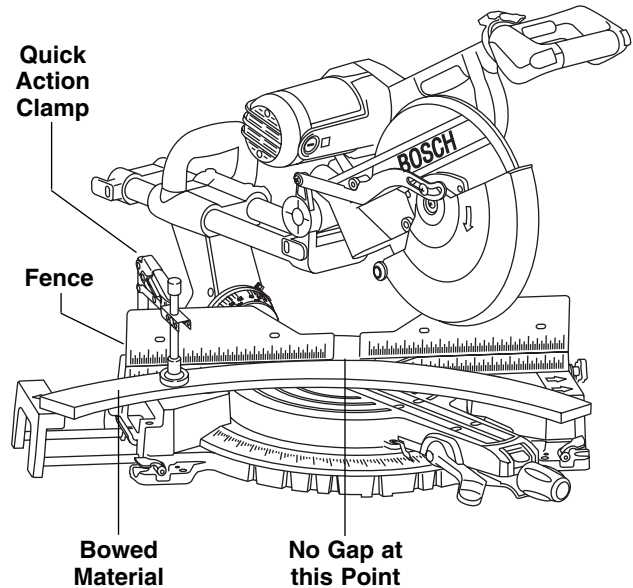

Figure 37. Bowed Material
**⚠ WARNING** If workpiece is bowed or warped, clamp it with the outside bowed face toward the fence. Always make certain that there is no gap between the workpiece, fence and table along the line of cut. Bent or warped workpieces can twist or rock and may cause binding on the spinning saw blade while cutting (Figure 37).